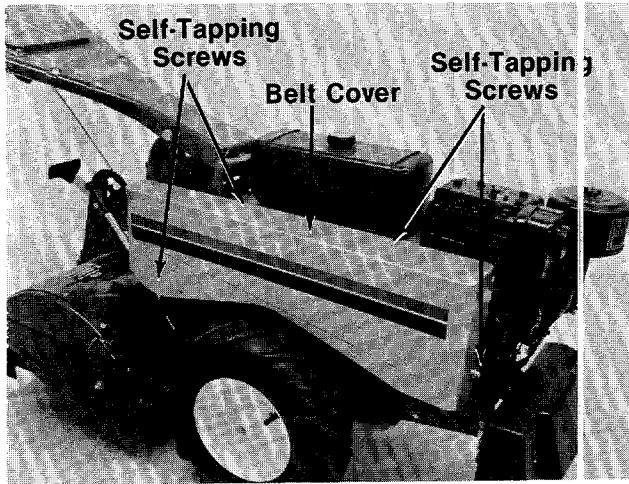

FIGURE 30.
1. Remove belt cover by removing the four self-tapping screws and flat washers. See figure 30.